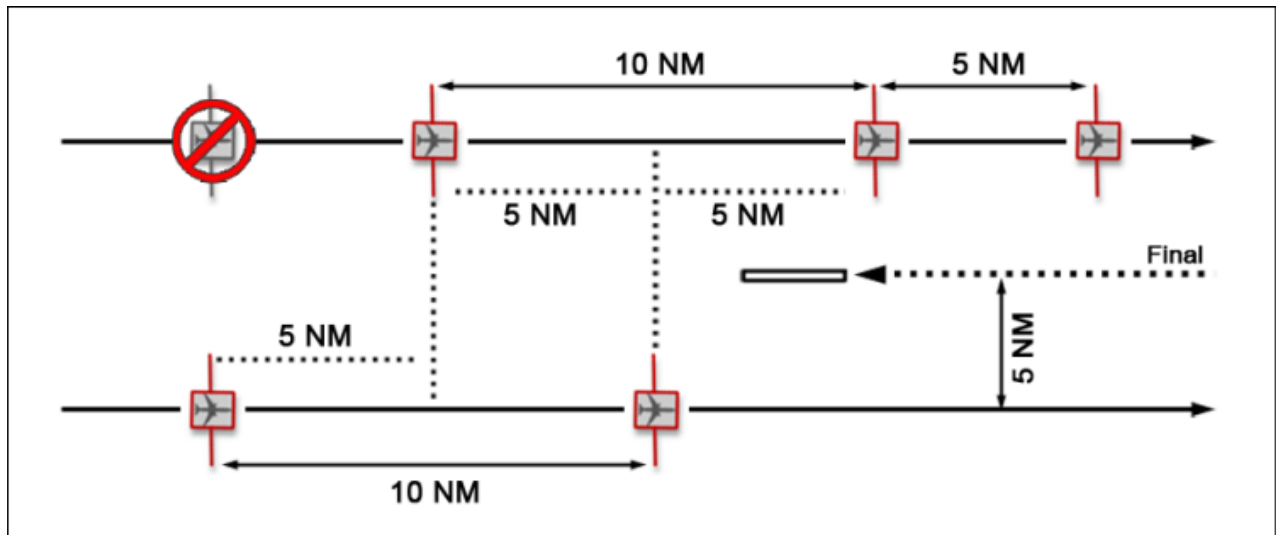

Figure J-4
- You must provide at least 5 NM between aircraft on the combined downwinds. To meet this requirement, you must consider both downwinds as a single feed. See figure J-4.